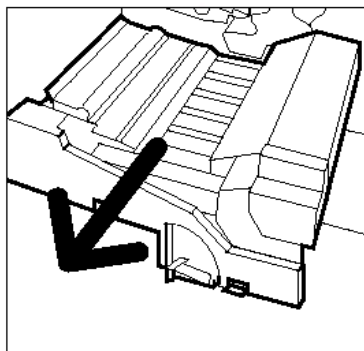

Figure 26: Pulling out the Paper Path Module
- 4** Grasp the Paper Path Module and firmly pull the module out of the copier/printer until it is fully open, as illustrated in Figure 26.